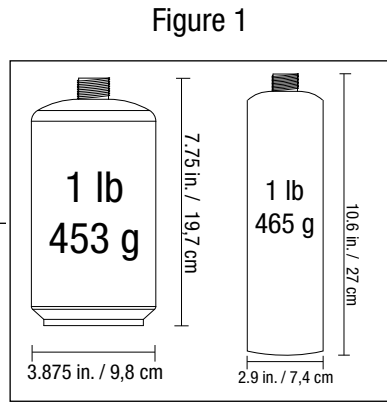

Figure 2
1. Make sure the regulator/control knob is in the "OFF" position (Figure 2).
1. Turn the regulator/control knob to the "OFF" position (Figure 2).
2. Make sure regulator/control knob is in the "OFF" position (Figure 2).
1. Turn regulator/control knob to the "OFF" position (Figure 2).